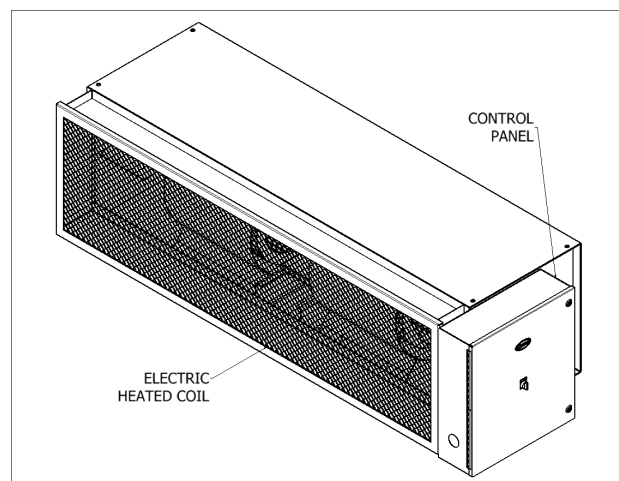

FIG. 1 (Electrically Heated WMI unit)
3. Electrically heated Wind Stopping and WindGuard units include an electric heater control panel mounted on the right hand side, as standard (FIG. 1). Optional motor/unit control panel available, which includes a remote 24 volt thermostat with On/Off switch with terminals provided.